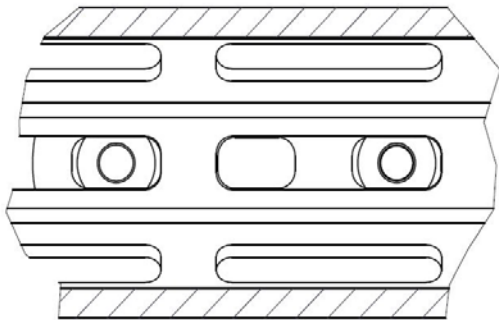

Figure 2 M-Lok lugs shown in the unlocked position
2. Align the nut with the recoil lugs so they pass through the M-LOK slots. (Figure 2.)